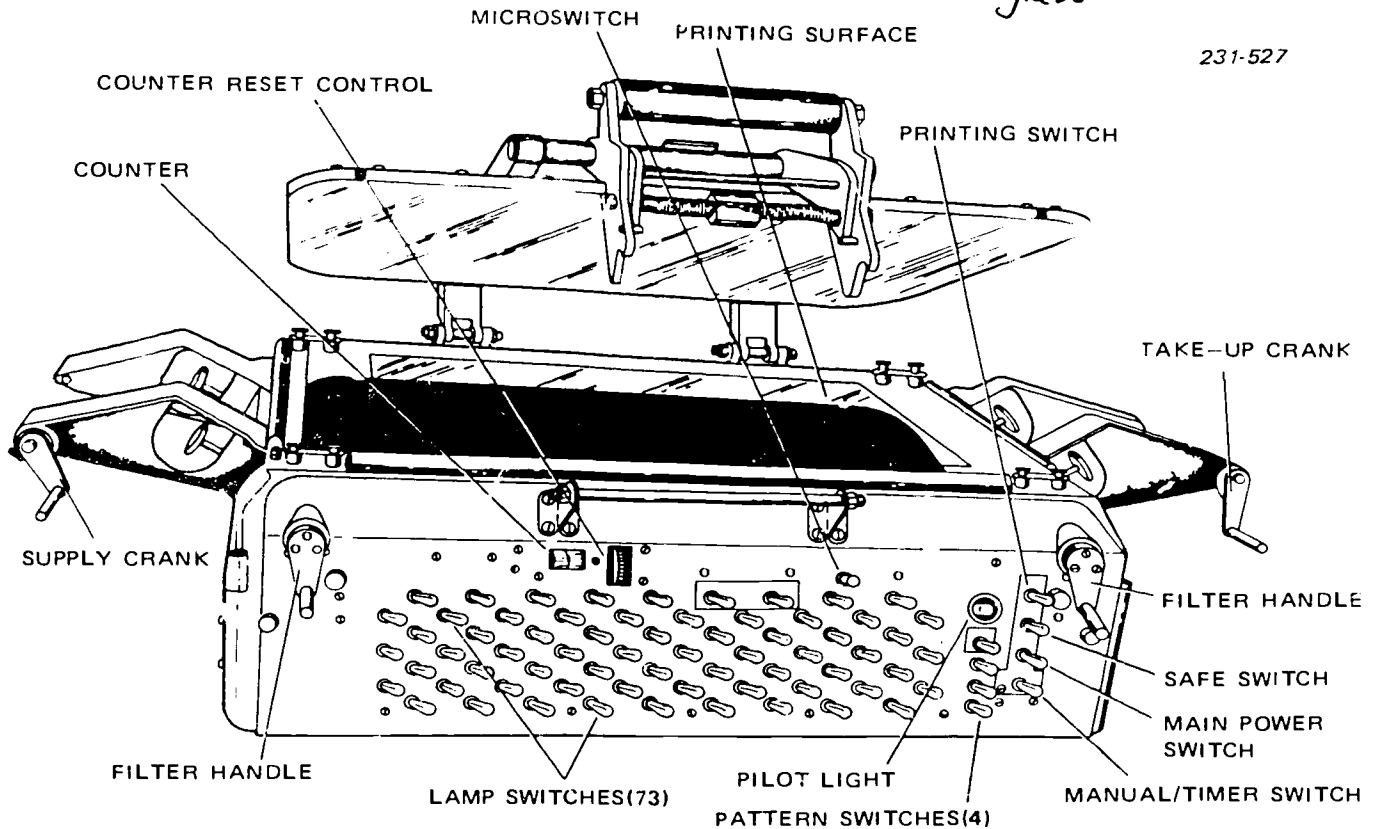

Figure 3-2. Photographic contact printer, EN-22A.
**Photographic Contact Printer, EN-22A.** The EN-22A, shown in figure 3-2, is a self-contained printer that accommodates negatives up to 10 x 20 inches (25 x 50cm) and aerial roll film, supported by brackets, up to 9.5 inches (24cm) in width and 500 feet (152m) in length. It has 73 3-watt incandescent printing lights. ~~Each light can be individually controlled, and there are pattern switches that control groups of lights. This exact control of lighting permits dodging and burning-in of the image. There is also a built-in filter roll for variable-contrast paper. At each end of the filter roll, there is a section of clear acetate which is used for printing without a filter.~~ Each light can be individually controlled, and there are pattern switches that control groups of lights. This exact control of lighting permits dodging and burning-in of the image. There is also a built-in filter roll for variable-contrast paper. At each end of the filter roll, there is a section of clear acetate which is used for printing without a filter.